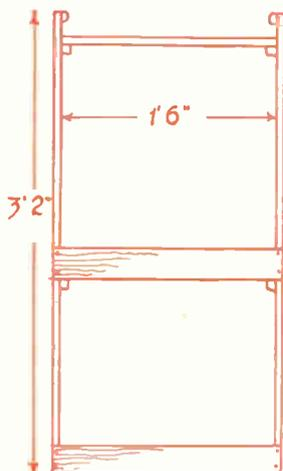
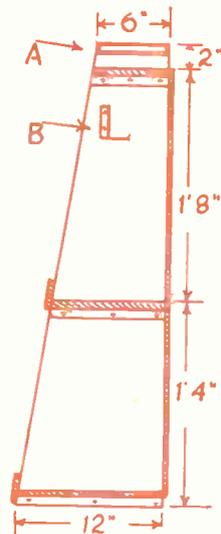

Fig. 1
Fig. 2
A front view of the rack is given at Fig. 1, and a vertical side section at Fig. 2. For the sides a piece of $\frac{3}{4}$ in. plywood will serve, 18ins. wide and 3ft. 2ins. long. Both sides can be cut from this without waste. The shelves can also be cut from this material, or $\frac{3}{4}$ in. planed deal, as preferred.
At positions where the shelves are to be fixed, screw $\frac{3}{4}$ in. by 1in. strips of wood. Cut the three shelves to length given, or longer if a wider rack would be desired, and screw to the strips. An easier job will result here, if the screw holes, which, by the way, should be countersunk, are bored in the shelves beforehand. Across the front of the rack nail 2ins. wide strips of thin wood to the middle and bottom shelves. Strips of $\frac{3}{4}$ in. thick matchboarding would suit. To the top of the rack sides, $\frac{3}{4}$ in. square strips of wood are nailed on the inside as at (A) in Fig. 2, to provide a grip when the rack has to be lifted up and shifted. The corner edges of these should be rounded off a little for ease in handling.
This can be a length of sheet metal, about 4ins. wide, bent L-shaped, and screwed to the inside of the rack, just below the edges of chisels, etc. It is shown at (B) Fig. 2, the best position being found by experiment.